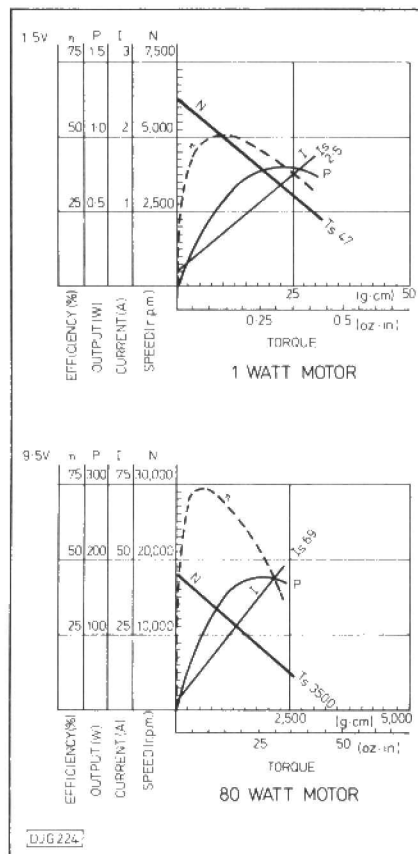

Fig. 4.
In the section headed "Principles" it was stated that the force on a current carrying conductor in a magnetic field is proportional to the current and the field. From this it follows that within limits the output torque of a motor with a constant magnetic field is directly proportional to the current. Fig 4 shows manufacturers curves for a typical small motor rated at about 1W and another much larger motor rated at 80W. These are based on an axis of torque (T) at a constant voltage and give curves of speed (N), efficiency (n), power (P) and current (I).